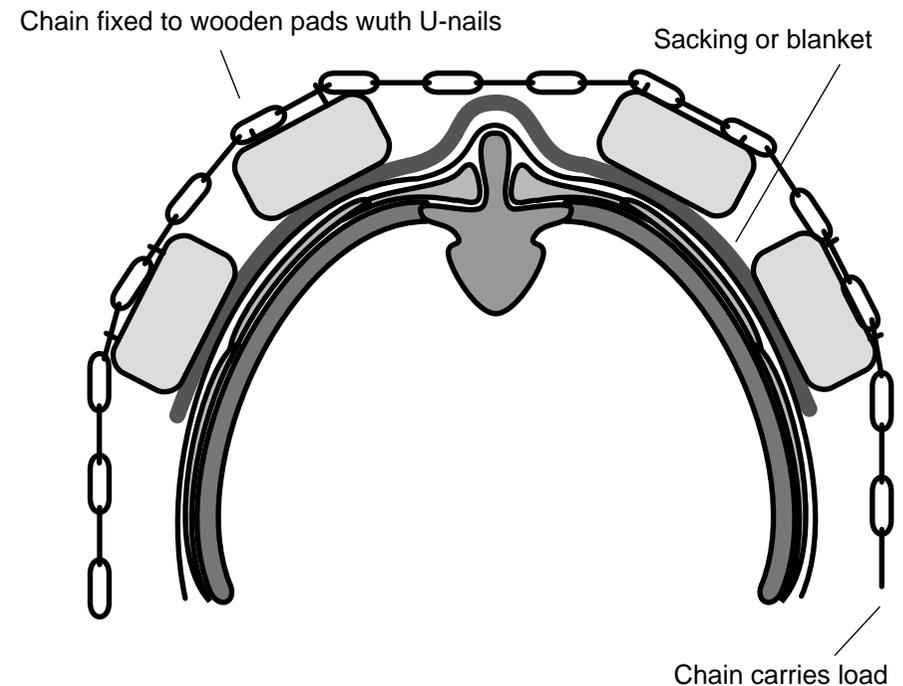

Figure 5: height of wooden blocks keeps chain away from backbone. Note sacking/ blanket padding.
- 3) Using U-nails, fix each of the top wooden blocks 75 mm either side of the centre of the chain and the other two blocks a further 75 mm away from them as shown in Figure 5.